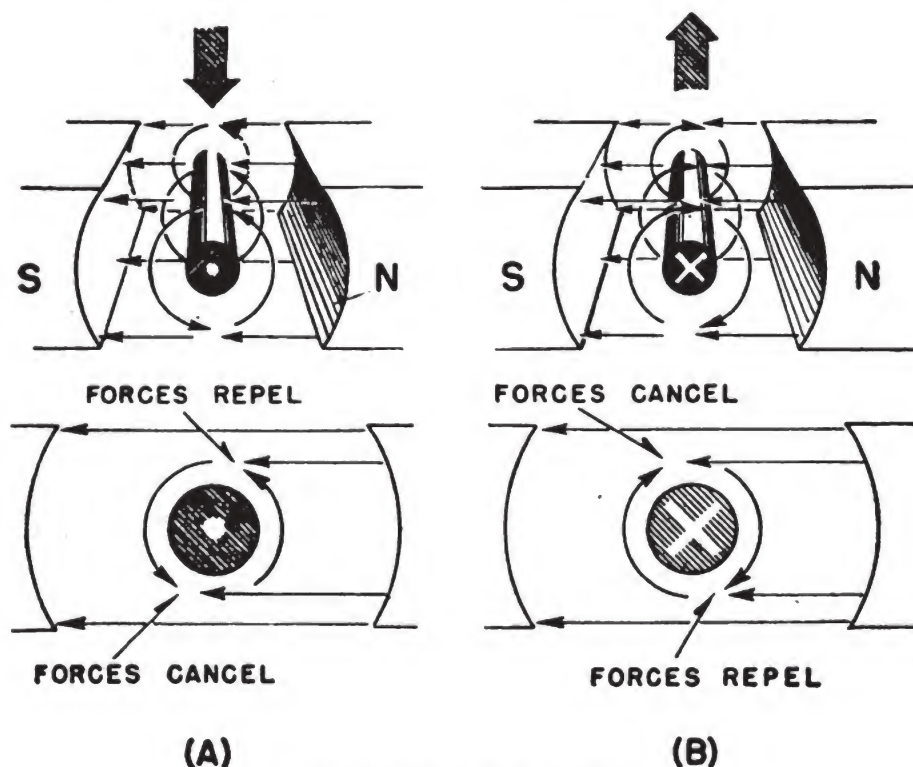

Figure 144.—Motor action.
netic field, the two magnetic fields react on each other. In (A) of figure 144, you see the magnetic field of the conductor (conductor flux) in relation to the magnetic field of the motor. Above the conductor, the field flux and conductor flux are in the same direction below the conductor. Re-